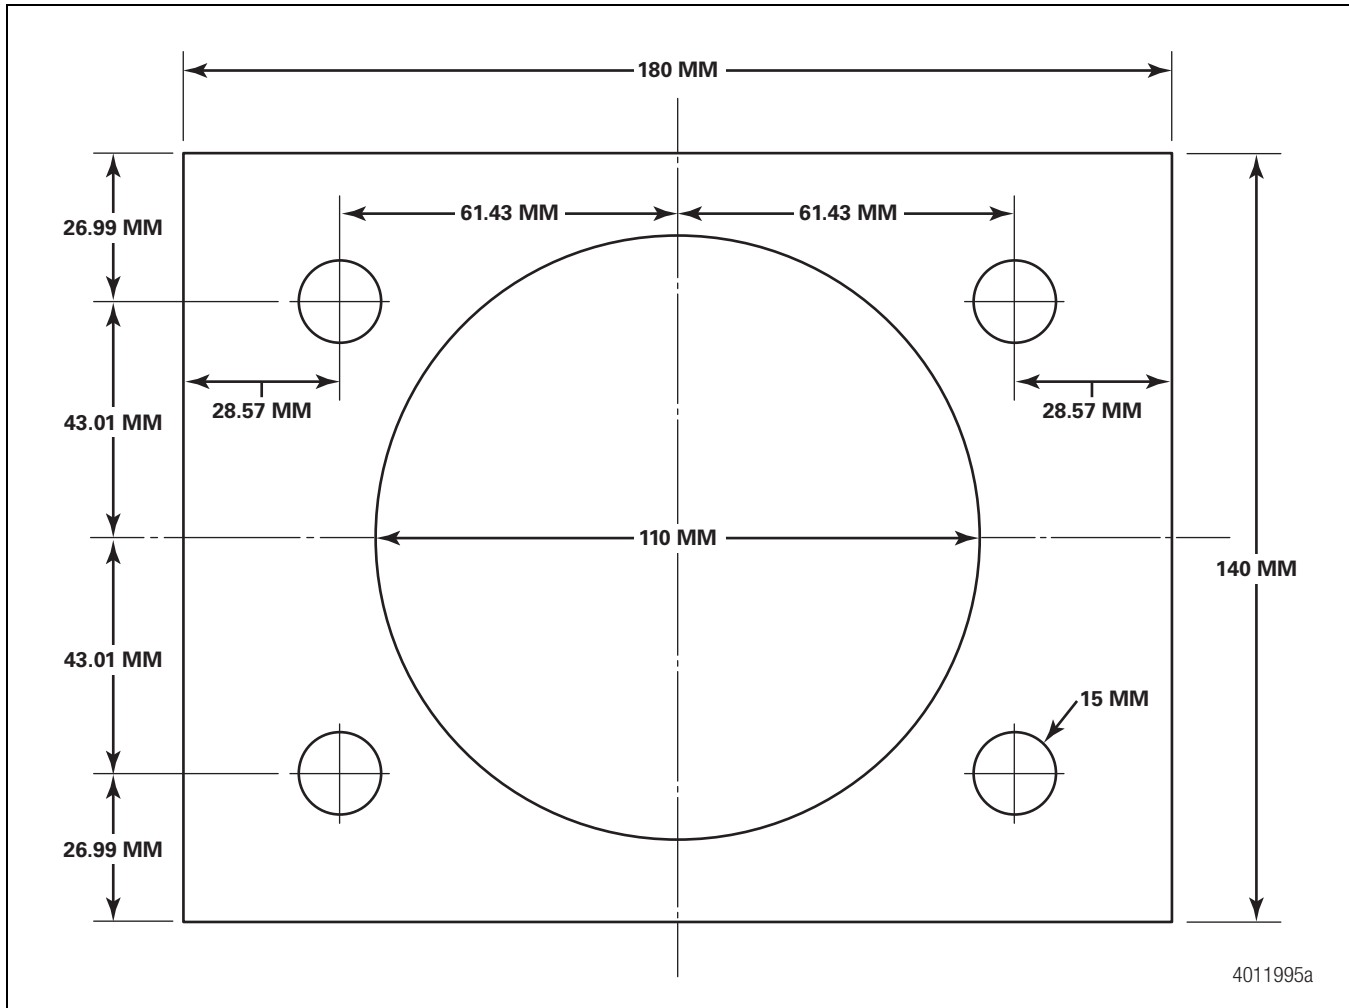

Figure 10.4
2. Cut and drill the plate using the dimensions in Figure 10.4.